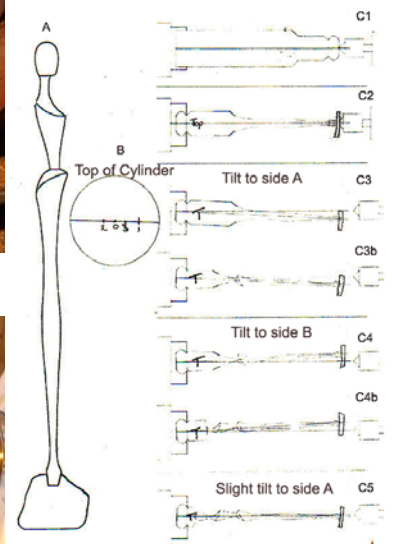

Figure 1
1. Mount your wood between centers and turn to the shape shown in Photo 2 and Figure 1 C1.
2. Remove the wood from the lathe, and mark the base as shown in Figure 1 B and Photo 3. The center is at "0"; the "1" is about 10-12 mm east of 0, "2" is 5-6 mm west, and 3 is 3-5 mm east. Experience will dictate which position is most pleasing to you. Note that the position of top of the cylinder is clearly marked
3. Mount the wood in the chuck as shown in Figure 1 C2 and Photo 4 and with tailstock in the center (0) as shown in Photo 5 and turn to the shape shown in Photo 6. *Leave about 1/2 inch of the cylinder full diameter at the tail stock.* Sand turned portion to 400 grit or better, and finish with finish of choice. Shellawax is ideal, but that is a personal preference
4. With the “top” of the cylinder, marked T directly in the uppermost position, loosen the chuck and tilt the cylinder towards you about 10 mm, as shown in Figure 1C3 and Photo 7. *Use the tailstock to just hold the position of the piece using the first mark of “1” made in section #2 above. Make a small indent to facilitate repositioning, should that become necessary, but do not tighten tailstock.*
5. Very carefully, making very small cuts, turn as shown in Figure 1 C3b and Photo 8. Sand and finish.
6. Again, keeping the top up, loosen the chuck and remount the wood as shown in Figure 1C4. Position the tailstock gently in position “2” indicated in Figure 1B. Turn the neck as shown in Figure 1 C4b, then sand and finish.